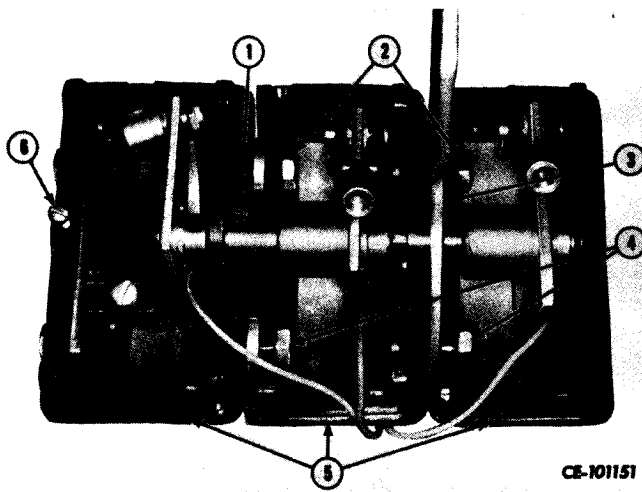

Figure 9-7
Loosen set screw (6, Fig. 9-7) and with aid of a suitable punch, drive pivot pin (1) out of lever bracket disconnecting control levers from lever bracket. Remove cap screws (2, 4) separating lever brackets (5) and adapter plate (3).
Position control lever brackets (5, Fig. 9-7), adapter plate (3) and install and tighten cap screws (2, 4). Install control levers up through bottom of brackets and drive pivot pin (1) through brackets. Rotate pivot pin so flat side of pin is in position for set screw (6).